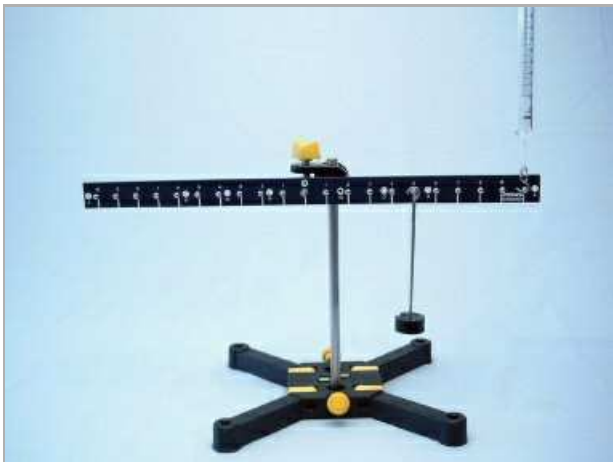

Fig. 8
- Hang the weight holder with a mass of $m_{\text{tot.}} = 40 \text{ g}$ at mark 5 on the right side of the lever (Fig. 8).